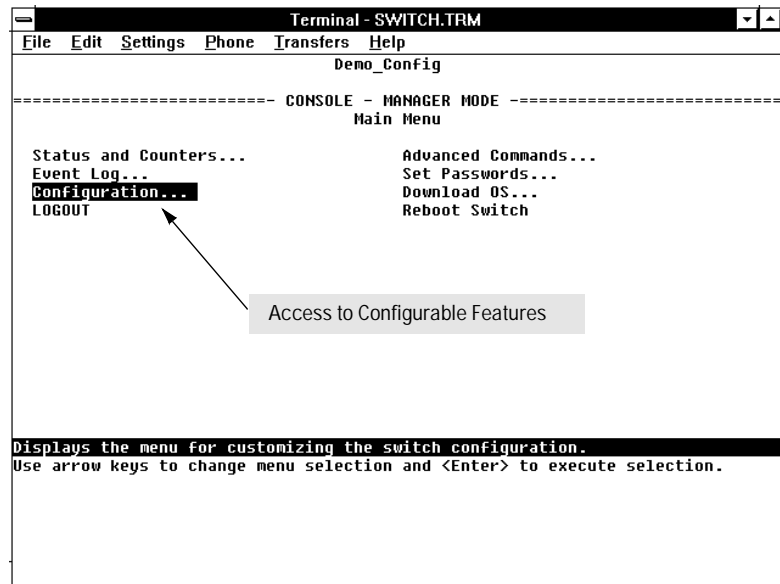

Figure 3-2. Select "Configuration" in the Main Menu
1. Begin at the Main Menu and select Configuration (figure 3-2):